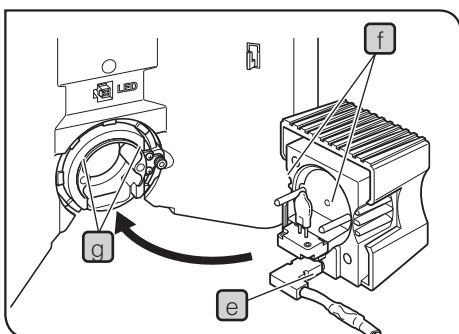

Fig.37
- 2 Insert the lamp cable **e** in the direction shown in Fig.37.